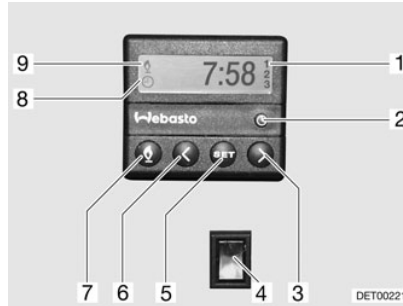

Fig. 69 Operating unit for independent vehicle heater
- Press the button (Fig. 69,7). The heating mode is displayed by the symbol (Fig. 69,9).
- Press the button (Fig. 69,7). The symbol (Fig. 69,9) goes off.
- Press switch (Fig. 69,4) down. Engine is preheated.
- Press switch (Fig. 69,4) up. Engine stays cold.
- Press the button (Fig. 69,2). The time setting is displayed by the symbol (Fig. 69,8).
- Set the time with the buttons (Fig. 69,3 and 6).
- Press the button (Fig. 69,5).
- Set the switching on time within ten seconds, with the buttons (Fig. 69,3 and 6).
- Keep pressing button (Fig. 69,5) until the selected programme number (Fig. 69,1) appears in the display.